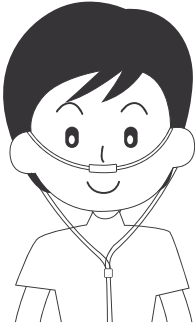

Figure 6
1. Before oxygen inhalation, connect the nasal cannula to the oxygen outlet. Then adjust the nasal cannula to an appropriate angle and wear it as shown in Figure 6.
2. Wearing method of the nasal cannula (see Figures 6 and 7)